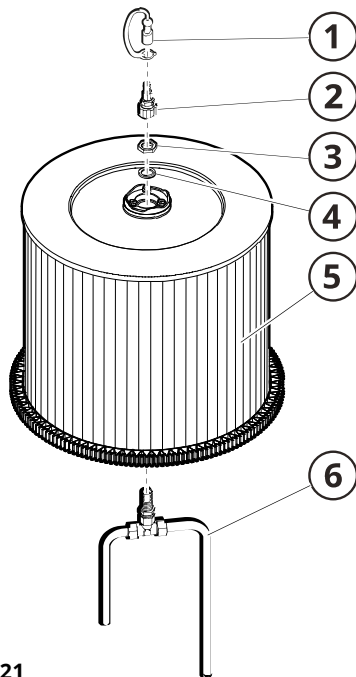
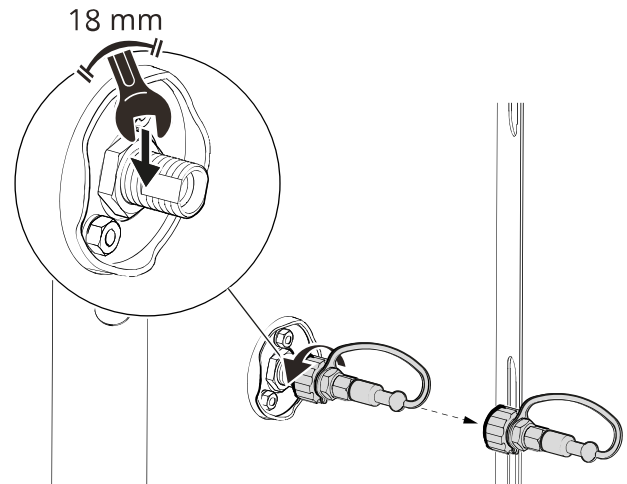
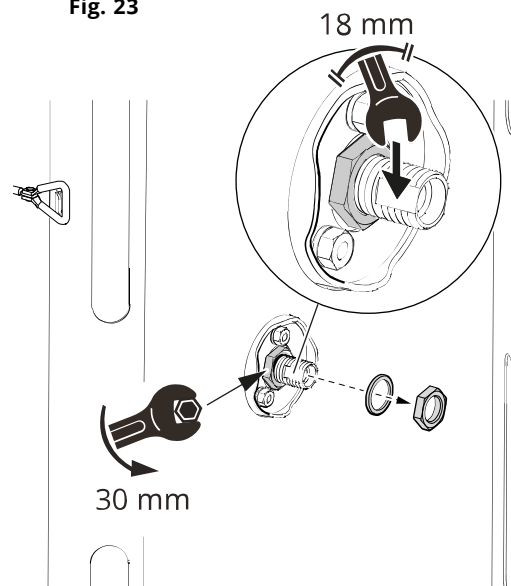

Fig. 21
Fig. 23
Fig. 24
2. Loosen the plug-in nipple (2, Fig. 21), nut (3) and spacer washer (4) from the air nozzle (6). See Fig. 23 and Fig. 24 for the procedure.
1. Install the air nozzle (6, **Fig. 21**), spacer washer (4), nut (3) and push-in nipple (2) onto the new filter cartridge.